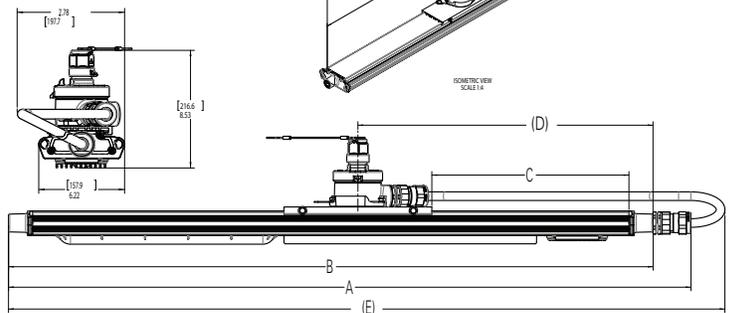

Figure 10
3. Install the slide mount bracket with junction box on the mounting flange of the fixture as shown in Figure 10. Adjust the position of the slide mount to dimension C shown in table. Note: dimension C is referenced to the end of the fixture mounting flange.
6. Install one (1) cable gland thread body to junction box and one (1) cable gland thread body to hub on driver end of fixture. Refer to CAP184288 and ADE 6F for cable fitting installation and cable preparation instructions.
7. Form the cable approximately as shown in Figure 10.